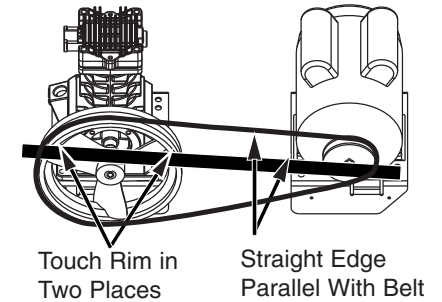

Figure 13
4. To align belt, lay a straight edge against the face of the flywheel, touching the rim at two places (See Figure 13).